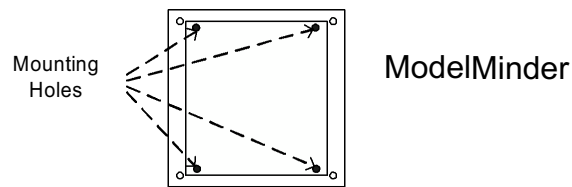

Figure 2.3: Mounting
- e. Secure ModelMinder to the wall using sheetrock screws making sure antenna wire is exposed. (**Figure 2.3**)